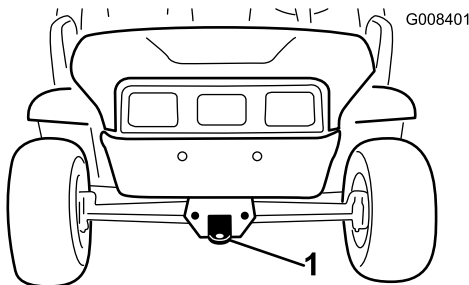
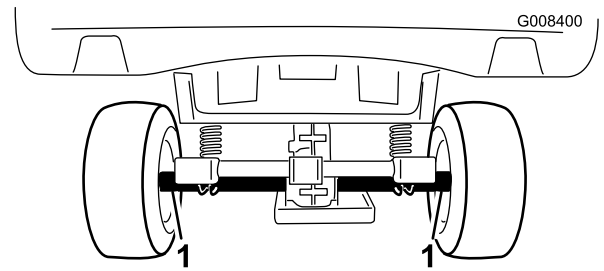

Figure 18
Figure 19
Refer to Figure 18 and Figure 19 for the tie-down locations on the machine.
2. Affix a tow line to the tongue at the front of the machine's frame (Figure 18).